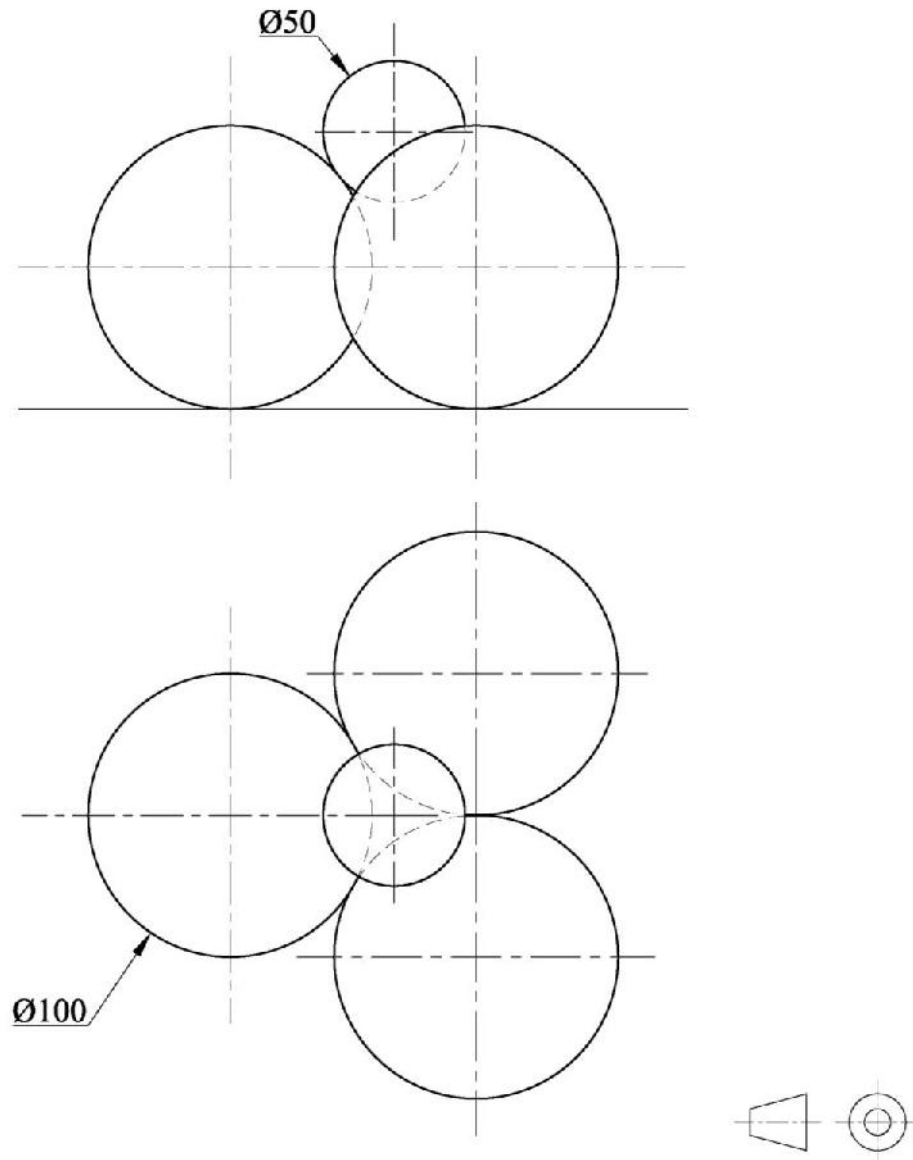

FIG. 2b
- a) the front elevation shown in Figure 2b showing clearly how the points of contact of the spheres are found;